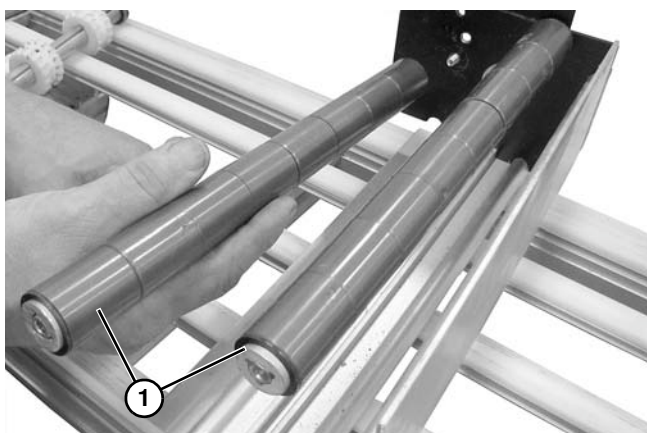

Figure 53
11. Remove shafts (**Figure 53, item 1**), replace if worn.